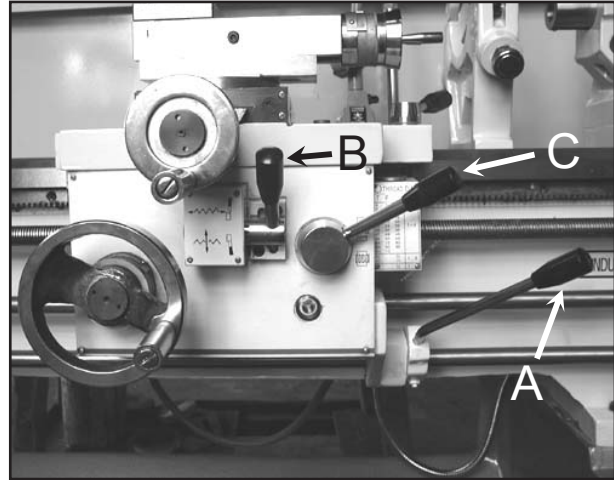

Fig. 19
1. Move the forward/reverse selector (A, Fig. 19) up or down depending on desired direction.
1. Push lever (B, Fig. 19) to the left and down to engage crossfeed.
1. Set forward/reverse lever (A, Fig. 19) up or down depending on the desired direction.
3. Push lever (B, Fig. 19) to the right.
4. Engage the half nut lever (C, Fig. 19).